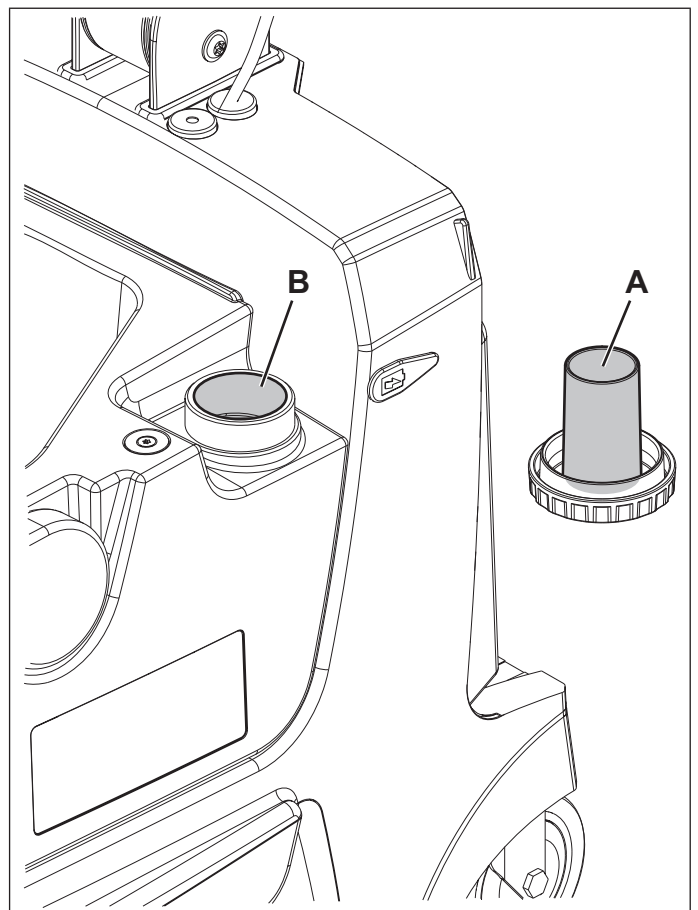

Figure 2
1. Remove the tank cover (12).
2. Remove the cap (A, Fig. 2) on the solution tank (B).
3. Fill the solution tank (B) with water, leaving a few centimeters from the top.
4. Use the measurement mark on the cap (A) to mix the solution.